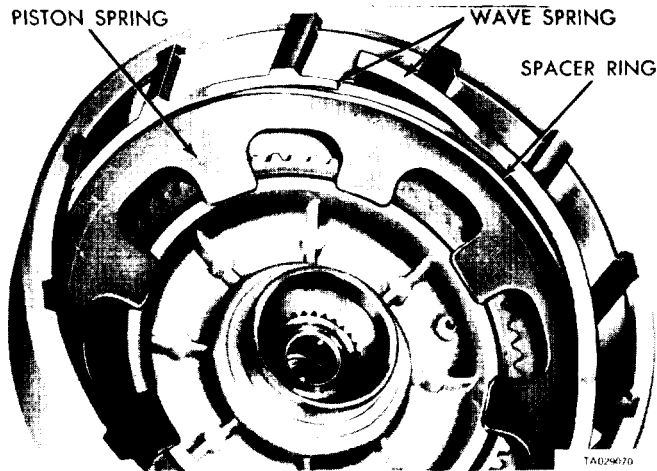

Figure 18-19. Installing Rear Clutch Spring, Spacer Ring, and Wave Spring.
(1) If removed, press the input shaft into the clutch piston retainer and install the snap ring.
(2) Lubricate and install the inner and outer seal rings on the clutch piston. Make sure the lips of the seals face toward the head of the clutch retainer, and are properly seated in the piston grooves as shown in figure 18-19.
(3) Place the piston assembly in the retainer and, with a twisting motion, seat the piston in the bottom of the retainer.
(4) Position the clutch retainer over the piston retainer splines and support the assembly so the clutch retainer remains in place.
(5) Place the clutch piston spring and spacer ring on top of the piston in the clutch retainer. Make sure the spring and spacer ring are positioned in the retainer recess. Start one end of the wave spring into the retainer groove (figure 18-19), then progressively push or tap the spring into place. Make sure it is fully seated in the groove.